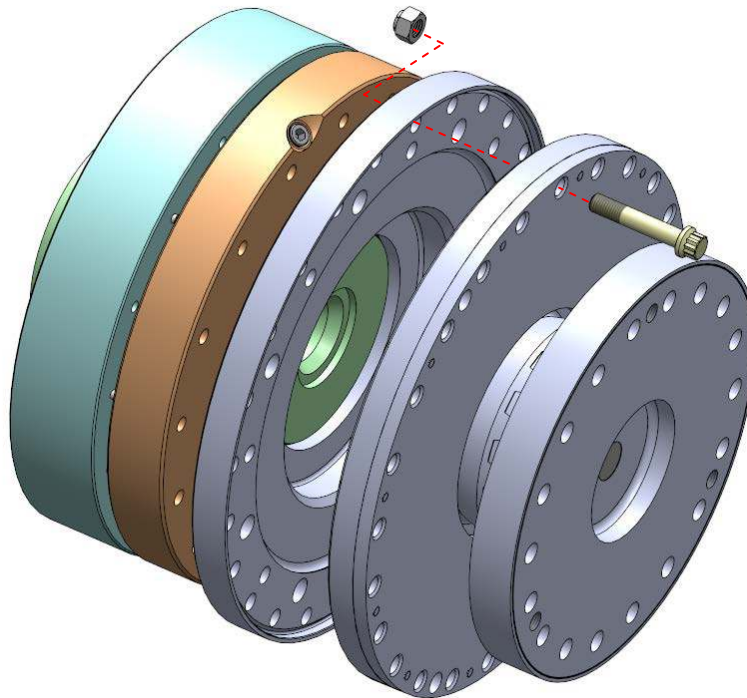

Figure 8 – Flex Assembly Installation on Hub Flange
4.1.1 Install one flex assembly onto the hub as shown in Figure 8 aligning the holes using Qty (4) bolts and nuts spaced 90 degrees apart. Tighten the bolts/nuts a few turns at a time in a criss-cross pattern to seat the pilot evenly. Install the remaining bolts and nuts and torque evenly in a criss-cross pattern to the torque shown on drawing HC-6480.